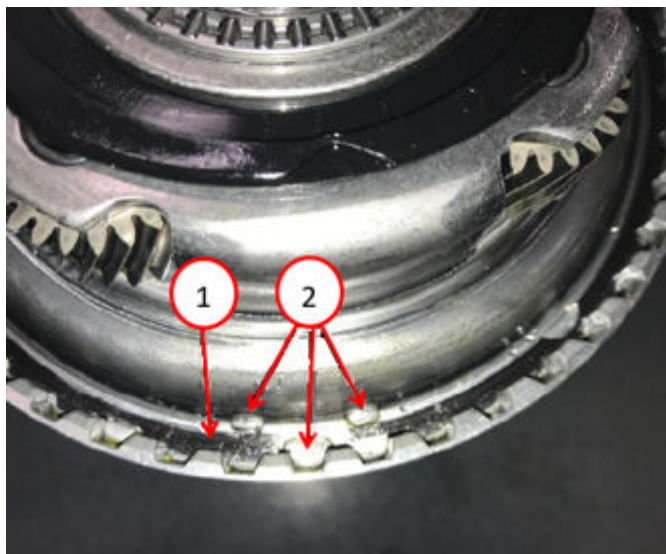

Fig. 30
47. Install the snap ring in the orientation shown (snap ring will only install one way) with the locating tabs Fig. 30.